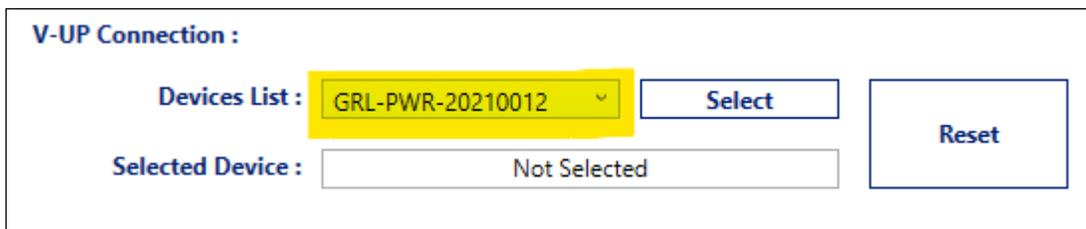

Figure 15. Check Connection Establishment Between Host and Device
2. Check the connection establishment between the Host and Device as shown in Figure 15 below.